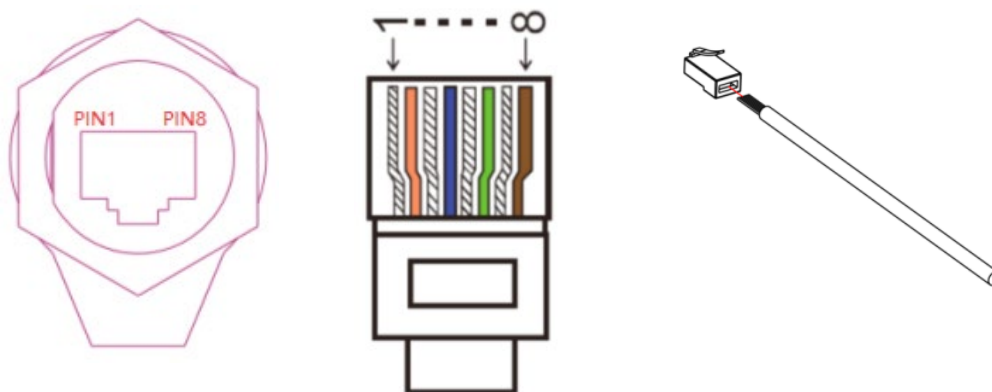

Figure150 – Connecting the DRMs interface (1)
- 1) Position the wire terminals according to the colour sequence shown in Figure150.